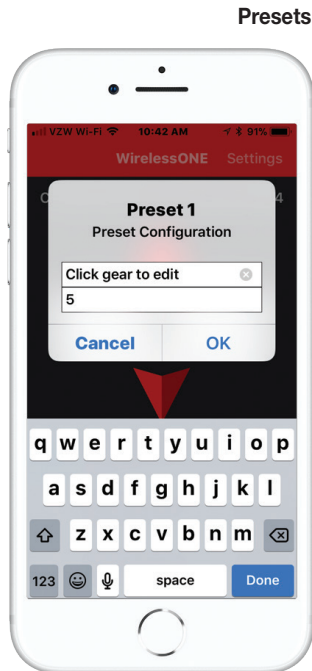

fig. C.5
1. The app must be connected to the manifold to change presets (Fig. C.5). Presets are stored on the manifold, so changes made in the app will also affect the wireless controller and vice versa.